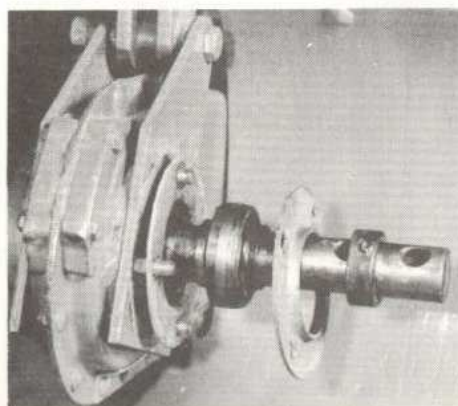

FIG. 47
5. Remove locking collar, bearing and flanges from shaft. See Fig. 47.